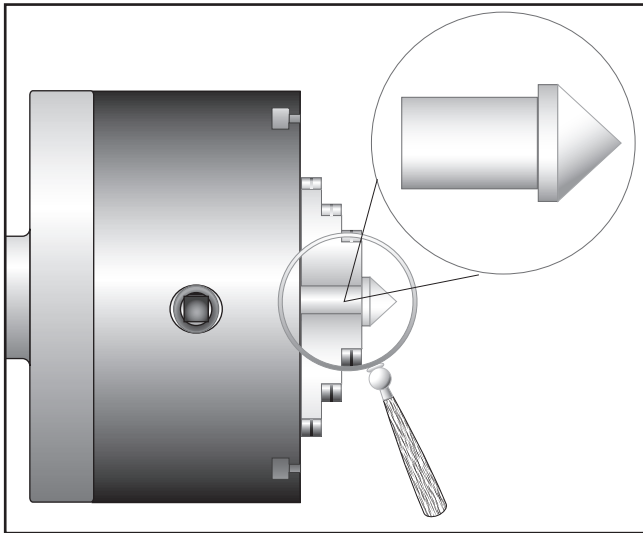

Figure 35. Finished dead center.
2. Make a dead center by turning a shoulder to make a shank. Flip the piece over in the chuck and turn a 60° point. See **Figure 35**. As long as it remains in the chuck, the point of your center will be accurate to your spindle's axis. Keep in mind that the point will have to be refinished whenever it is removed and returned to the chuck.